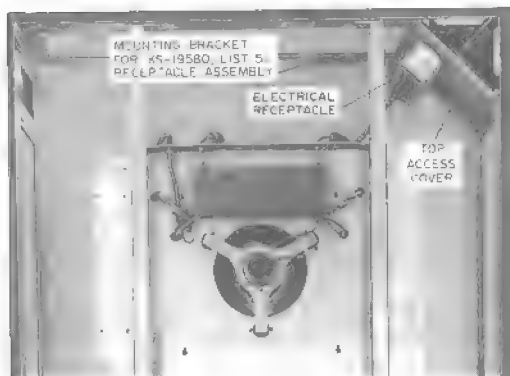

Fig. 3—KS-19580 Booth Ceiling Area
2.12 A mounting bracket (Fig. 3) is provided in ceiling area for mounting a List 51 receptacle.
electrical receptacle (Fig. 3) located above the ceiling.
2.14 The telephone wire will terminate above the ceiling on a 123A1A protector which is furnished with booth and located behind the top access cover (Fig. 3).